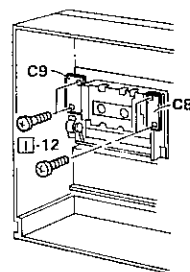

Figure 5-5
- Remove four screws from the P.W.B. shown in Figure 5-5, and take it off.